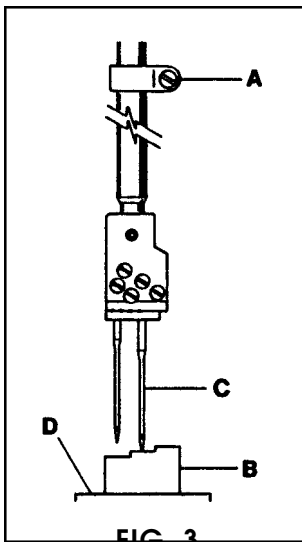

FIG. 3
Position the needle bar at its highest point of travel. Loosen needle bar clamp screw (A, FIG.3) & use the specified needle bar height gauge (B) to achieve the desired height dimension from the fourth (lowest) needle (C) to the throat plate surface (D). Tighten clamp screw (A) and recheck setting. Care must be taken not to disturb the needle head alignment while making the adjustment. Add the two middle needles and the retainer.